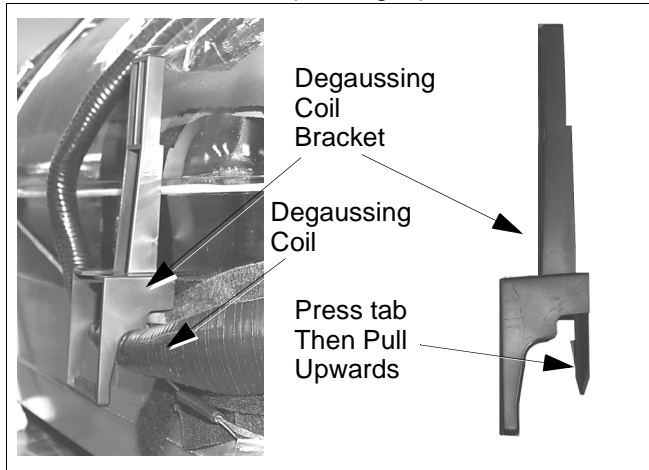

Figure 7. Brackets removal
**Note:** To remove the four brackets holding the degauss coil from the corners of the CRT, first remove the CRT from the cabinet, then remove the Brackets by pressing the tab on the bracket and pull upwards. These Brackets are included in the Degauss Coil Kit, for part number, please see parts list section (See Fig. 7).
**Note:** Reuse all the claspers and mounting brackets from the degaussing coil and screen, and when remounting the degaussing coil assure that is not touching the speakers, this can be done by placing some tape (See Fig. 7), this may cause mask vibration. The mounting brackets and claspers are not supplied with the replacements.